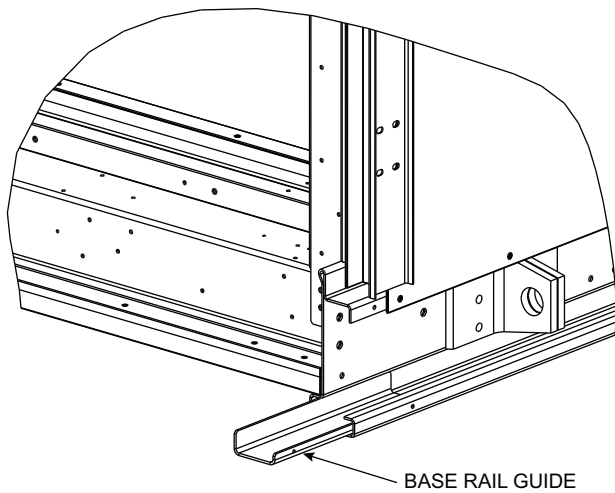

Fig. 34 — Base Rail Guide
5. Insert top rail guides into top rails of the main unit section. Do not attach with screws yet. See Fig. 34 and 35.